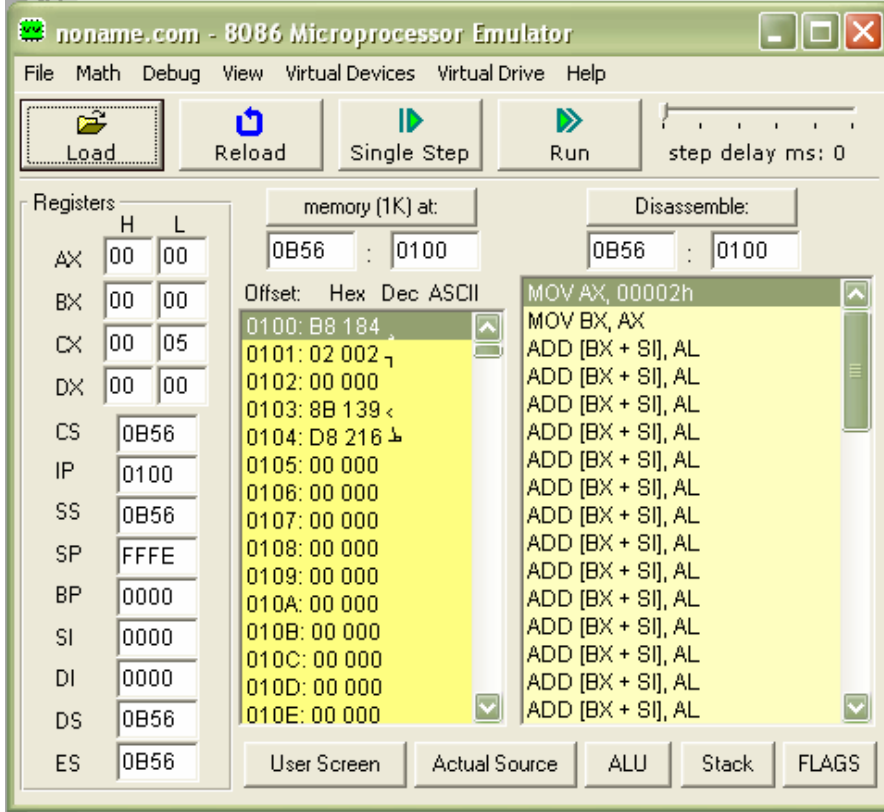
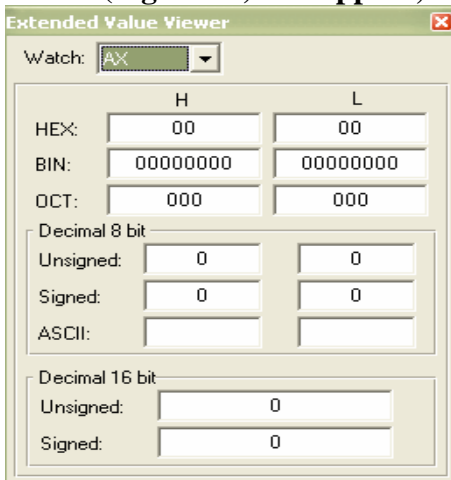

Figure 10
Figure 12
- When you press Emulate, this window (Figure 10) will appear, it displays the value of all Registers, flags, block of memory (1K) at a time as Hex value, Decimal value, and ASCII char, and disassembled machine code. You can watch and change them during the executing of your code.
- To change any register or any memory location, double click on the register (Figure 10), this window (Figure 12) will appear, from Watch select the register then change it as HEX, BIN, or OCT